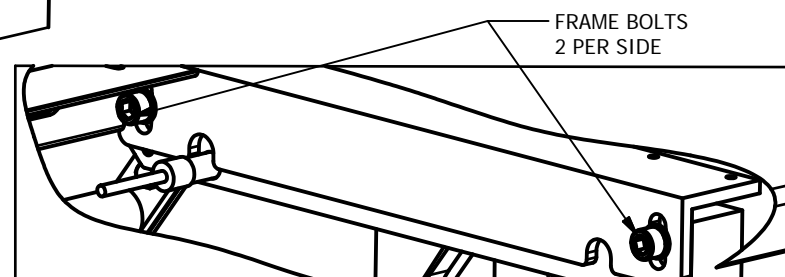

Fig. 4, TOP RIGHT CUT THRU
-Loosen the four frame bolts along with the 6 setup screws in Step 2 (DO NOT REMOVE). (Fig. 4)